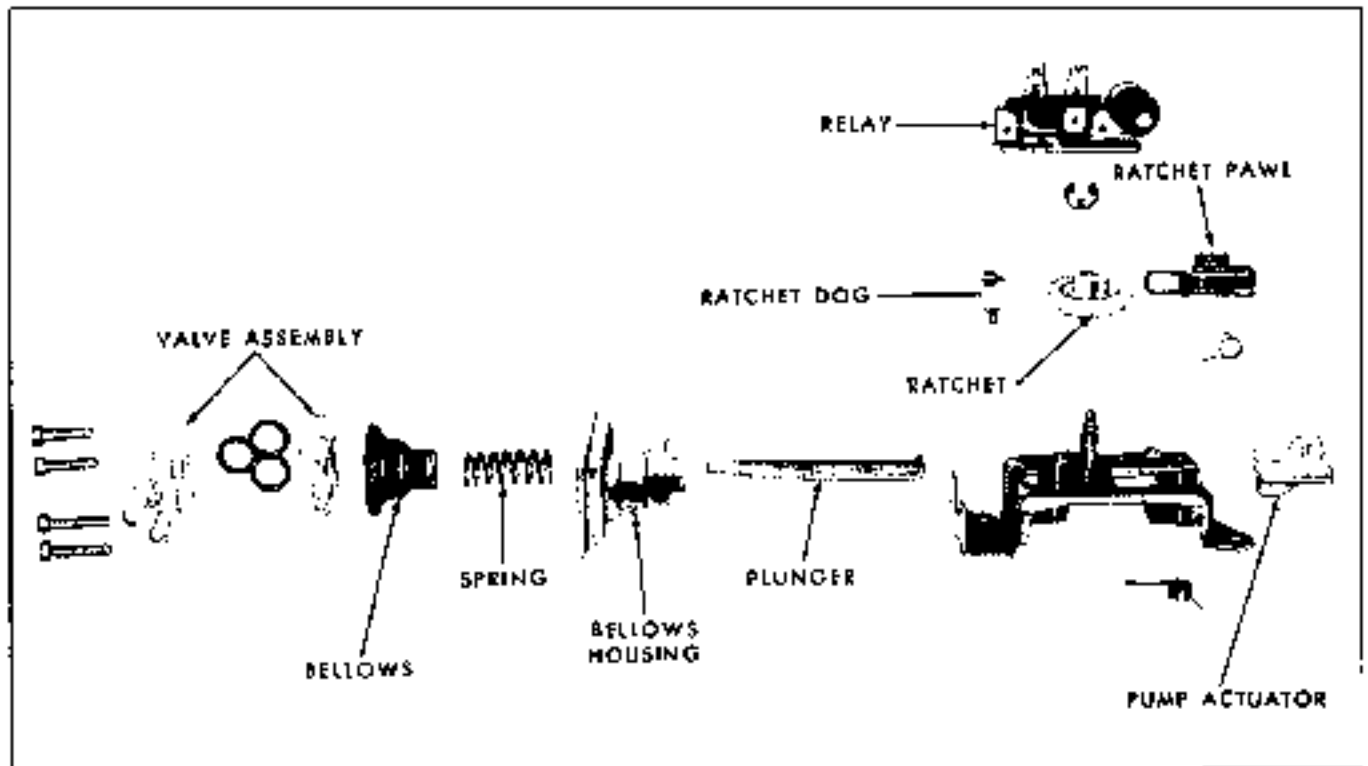

Fig. 12-47 Exploded View Pump Assembly—Tempest and Firebird
2. To release the plastic pump housing from the steel-metal base, pull it in the direction toward the valve and until the housing knurles clear the sheet-metal base. Next, detach the assembly from the cam-follower pin (fig. 12-47).